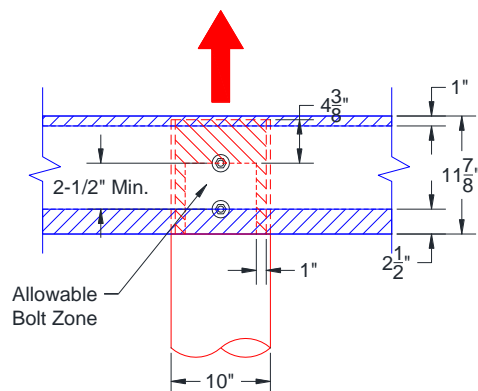
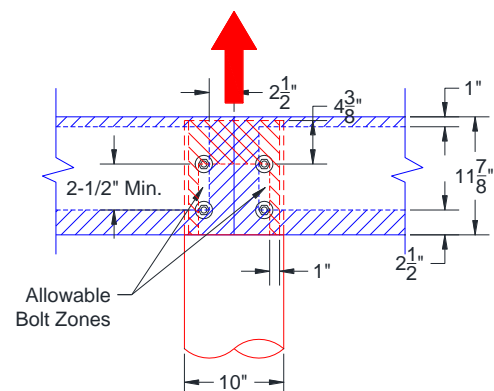

Figure 4: Uplift Design (Continuous Beam).
Figure 5: Uplift Design (Spliced Beam).
- $C_A = 1.0$ based on maintaining all NDS® required end and edge distances for both the beam and pile. See Figures 4 and 5 for required distances based on this example.
| Product (Moisture Condition) | Z [lb/bolt] | C _M | C _D | C _Δ | Z' [lb/bolt] | Figure 4 Effective Bolts | Figure 4 Capacity [lb] | Figure 5 Effective Bolts | Figure 5 Capacity [lb] |